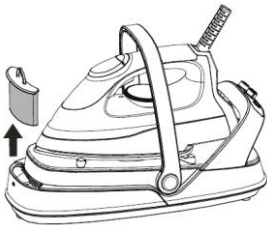

Fig. 7
2. Remove the anti-lime filter **3** by pulling it upwards (Fig. 7).